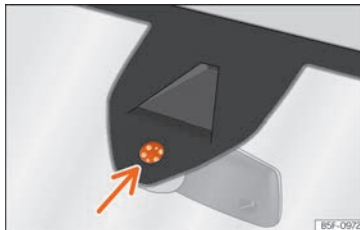

Fig. 105 Rain sensor sensitive surface
Possible causes of faults and mistaken readings on the sensitive surface »» » Fig. 105 of the rain sensor include:
- Clean the sensitive surface of the rain sensor regularly and check the blades for damage »» Fig. 105 (arrow).